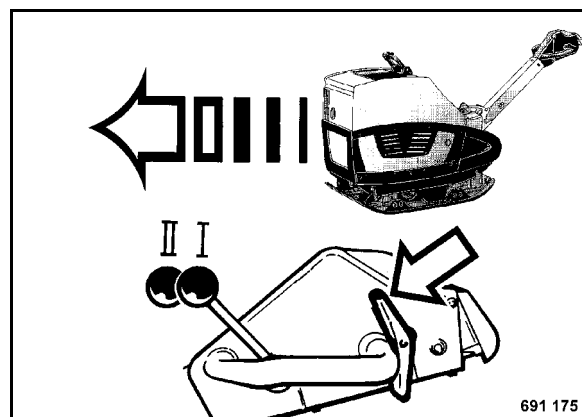

Fig. 31
- Press the upper part of the travel lever (tip switch) (Fig. 31), until the vibratory plate has reached the desired forward travel speed.